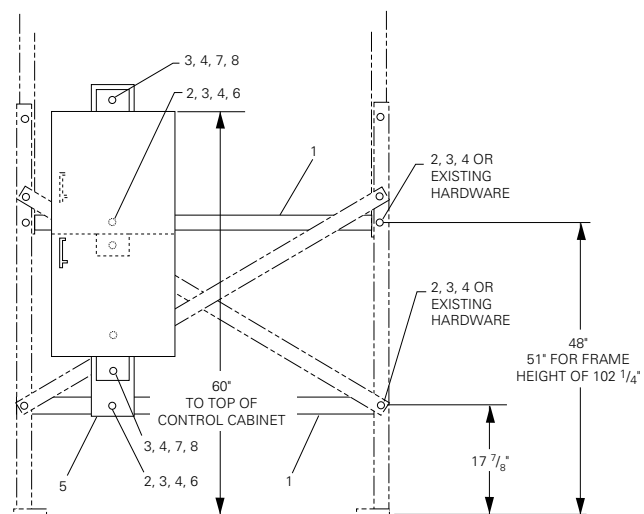

Figure 23. Control mounted on side of frame at 60-inch height (KA89WV11).
Refer to Figure 23 and Table 10. For all basic frame heights, accessory KA89WV11 mounts the control at a 60-inch height from the top of the control cabinet to the mounting pad.
8. Mount the vertical control strap to the upper and horizontal support angle as shown in Figure 23.
9. Fasten the vertical strap with two lockwashers (Item 4), and two hex nuts (Item 3) as shown in Figure 23.
1. From the top of Item 5, locate the first hole and loosely install one cap screw (Item 2), one flat washer (Item 8), one lockwasher (Item 4), and one hex nut (Item 3) as shown in Figure 23.
1. From the top of Item 8, locate the first hole and loosely install one cap screw (Item 2), one flat washer (Item 8), one lockwasher (Item 4), and one hex nut (Item 3) as shown in Figure 23.